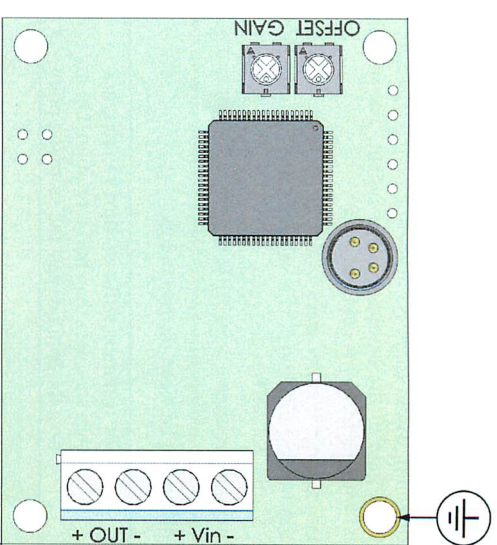

Figure 1 Component Board (3-wire version)
1. Attach the module securely using the mounting holes on the corners of the component board. Use the optional mounting bracket if needed. Be sure to provide an earth connection from the plated mounting hole. See Figure 1. Refer to the User's Guide for Vaisala order codes of accessories.